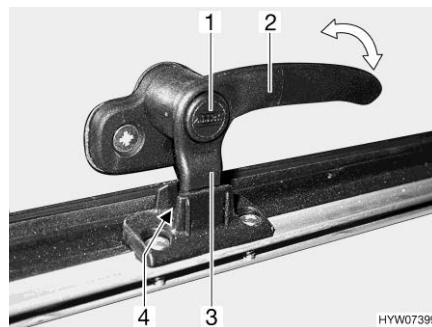
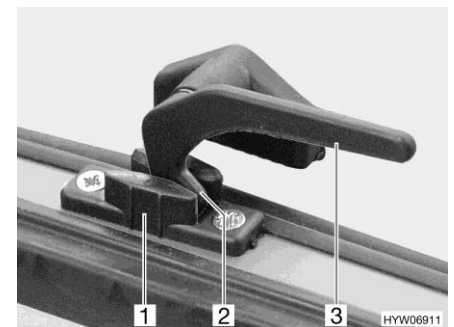

Fig. 98 Catch lever with safety knob in "continuous ventilation" position
Fig. 99 Catch lever in "continuous ventilation" position
- "Continuous ventilation" (Fig. 98 and Fig. 99)
- Press and hold the security button (Fig. 98,1), if present.
- Turn the catch lever (Fig. 98,2 or Fig. 99,3) a quarter turn towards the centre of the window.
- Return the catch lever to its initial position. Move the locking catch (Fig. 98,3 or Fig. 99,2) on the catch lever into the recess of the window catch (Fig. 98,4 or Fig. 99,1).